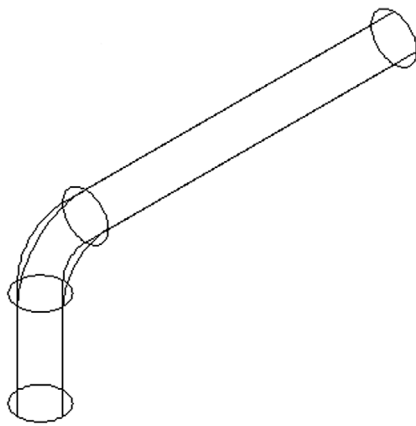

FIGURE 24.37 Path extrusion of the pipe.
Step 4. Click to select the path itself. You see what is shown in Fig. 24.37, in wireframe.